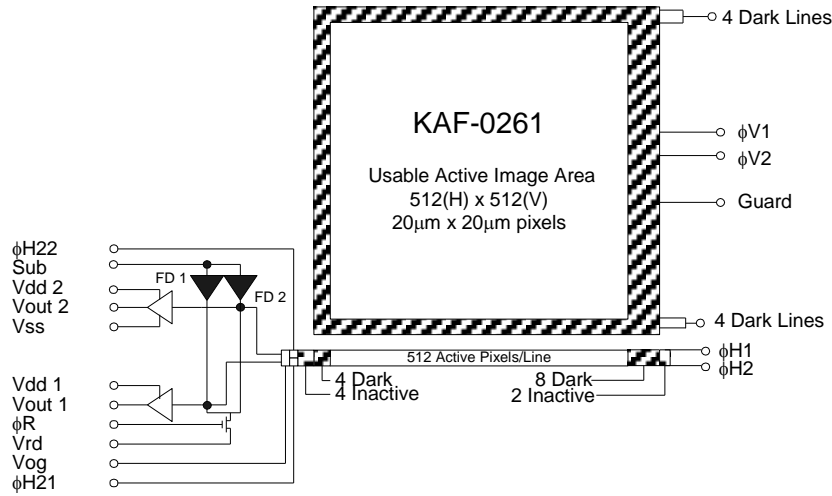

Figure 1: Block Diagram
The KAF-0261 consists of one vertical (parallel) CCD shift register, one horizontal (serial) CCD shift register and a selectable high or low gain output amplifier. (See Figure 1) Both registers incorporate two-phase buried channel CCD technology. The vertical register consists of 20µm x 20µm photocapacitor sensing elements (pixels) that also serves as the transport mechanism. The pixels are arranged in a 512(H) x 512(V) array; an additional 12 columns (4 at the left and 8 at the right) and 8 rows (4 each at top and bottom) of non-imaging pixels are added as dark reference. There is no storage array, so this device must be synchronized with strobe illumination or shuttered during readout.